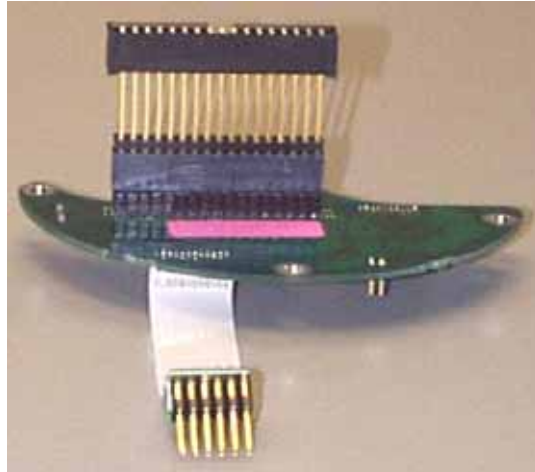

Figure 9-1 . Backplane with 34-Pin Interface Connector
1. Insert the 34-pin interface connector into the backplane connector. Make sure that the connector shell faces away from the backplane and toward the termination board. See Figure 9-1.